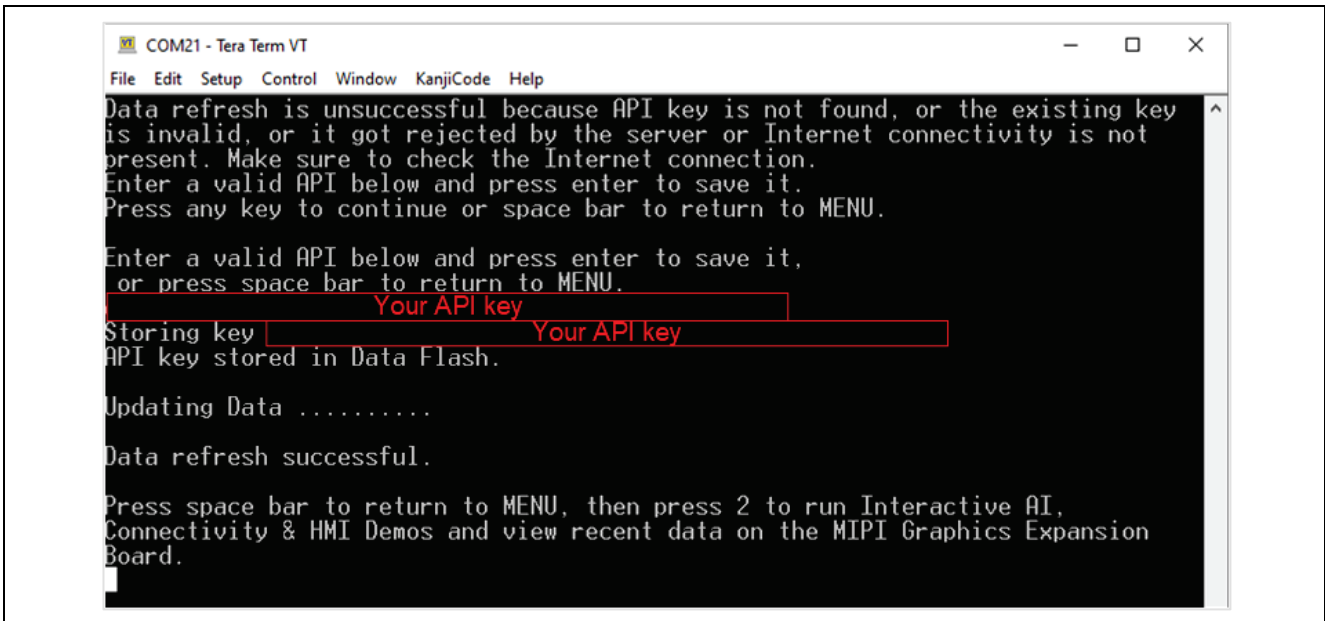

Figure 30. Entering Currency API keys for the first time
4. If the API key does not exist, the console display is as shown in Figure 30.